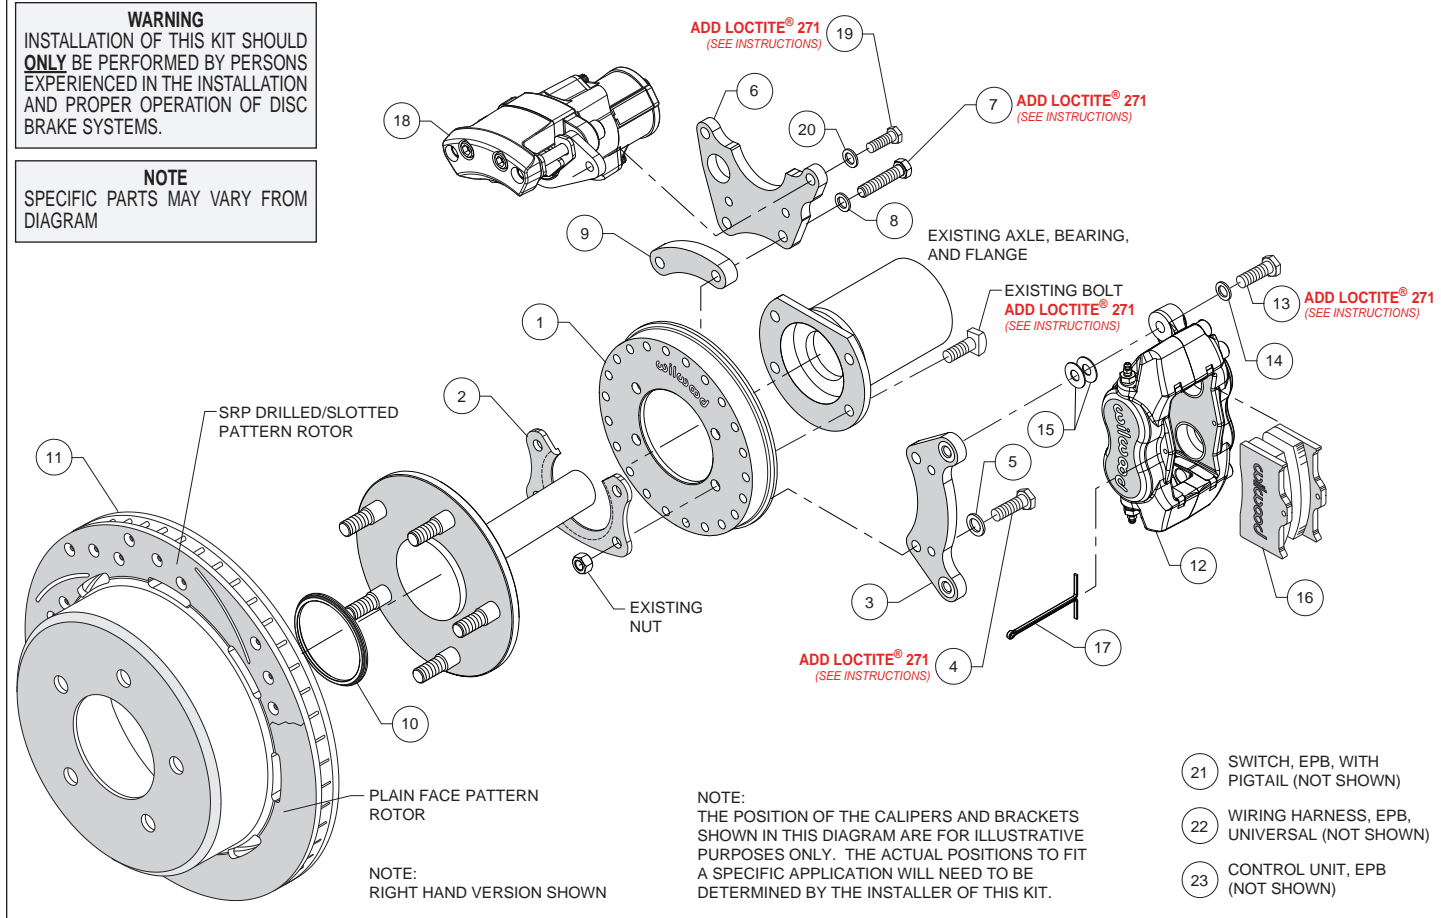
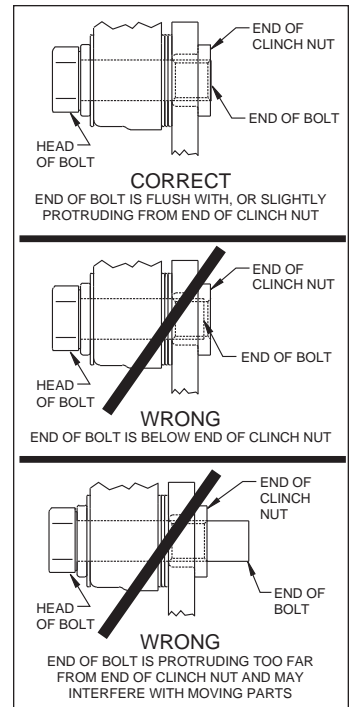

Figure 1. Typical Installation Configuration
Figure 5. Clinch Nut Engagement Diagram
(numbers in parenthesis refer to the parts list, and Figure 1 on the preceding pages):
CAUTION: All mounting bolts must fully engage clinch nuts. Be sure to check that all bolts are either flush or protruding through flanged side of clinch nut after shimming, Figure 5.
- Orient the backing plate (1) as shown in Figure 1 and Photo 1, and slide it onto the axle housing flange. Ensure the backing plate fits flush against the axle housing flange. Reinstall the axle into the axle housing.
- Install the bearing retainer (2) with the opening pointing upward and the lip facing inward (toward the bearing), as shown in Figures 1 and 4, and Photo 2. Secure retainer and backing plate to the axle housing flange using the Original Equipment Manufacturer (OEM) bolts and nuts, Figure 1 and Photo 3. Apply red *Loctite*® 271 to the OEM bolt threads and torque to OEM specifications.
- Start by determining the best location for the service caliper (12). This caliper is usually mounted in the 3:00 or 9:00 o'clock position, but may be rotated up or down approximately 45 degrees and still allow for proper bleeding, Photo 4. Orient the service caliper bracket (3) as shown in Figure 1 and Photo 5, and install to the backing plate (1) in the desired location using bolts (4) and washers (5). Temporarily tighten bolts. Next, mount the service caliper to the bracket using bolts (13) and washers (14). Temporarily tighten bolts. Check that the caliper (including inlet fitting and hose) has sufficient clearance to all surrounding components through the full suspension travel. Relocate the caliper/bracket on the backing plate as needed to ensure proper clearance is achieved.
- Determine the best location for the EPB caliper (18). **NOTE:** *The EPB caliper motor extends farther inboard than the service caliper and therefore needs additional consideration when determining a mounting location with sufficient clearance.* In the example application shown in Photo 6, the EPB caliper has sufficient inboard clearance to the leaf spring. However, if the EPB caliper were mounted closer to the 12:00 o'clock position, the inner body of the vehicle would hit the caliper during full compression of the suspension.
•Orient the EPB caliper bracket (6) as shown in Figure 1 and Photo 7, and install to the backing plate (1) in the desired location using bolts (7), washers (8), and spacer (9). Temporarily tighten bolts. **NOTE:** The EPB bracket is reversible. In one direction the bracket will position the EPB caliper closer to the service caliper, and vice versa if reversing the bracket. Next, mount the EPB caliper (18) to the bracket using bolts (19) and washers (20). Temporarily tighten bolts. **NOTE:** EPB calipers are Left and Right handed, however they can be used on either side of the vehicle to best suit your specific application. Check that the EPB caliper (including wiring harness connector) has sufficient clearance to all surrounding components through the full suspension travel. Relocate the EPB caliper/bracket on the backing plate as needed to ensure proper clearance is achieved.
•Once the caliper positions have been determined, remove both the service (12) and EPB (18) calipers, leaving both brackets in place on the backing plate. For both brackets, remove the bolts one at a time, apply red *Loctite*® 271 to the threads, and torque to 35 ft-lb.
•Slide the rotor registration adapter (10) onto the register on the axle flange with the smaller O.D. facing toward the rotor/hat (11), Photo 8. Align the hole pattern in the rotor/hat with the stud pattern on the axle flange and slide into place, Figure 1. **NOTE:** The rotor/hat must fit flush against the axle flange or excessive rotor run out may result. Install three lug nuts (finger tight) to keep the rotor/hat assembly in place while continuing with the installation. **NOTE:** Some OEM and after market axles come with stud sizes larger than 0.50" diameter. Verify stud size and have a qualified machine shop drill the bolt circle of the hat/rotor to the correct stud size, if necessary.
•**NOTE:** Please reference the caution statement at the beginning of the assembly instructions. Remount the service caliper (12) onto the caliper mounting bracket (3) using bolts (13) and washers (14), as shown in Figure 1. Initially place two .035" thick shims (15) on each bolt between the caliper and the bracket, Photo 9. Temporarily tighten the mounting bolts and view the rotor (11) through the top opening of the caliper. The rotor should be centered in the caliper, Photo 10. If not, adjust by adding or subtracting shims (15) between the bracket (3) and the caliper (12). Always use the same amount of shims on each of the two mounting bolts. **NOTE:** The end of each bolt must be flush with or slightly protruding from the head of the clinch nut, as shown in Figure 5. If necessary place spare shims (15) between washer (14) and caliper mounting ear to achieve the proper clinch nut engagement. Once the caliper alignment and clinch nut engagement are correct, remove the bolts one at a time, apply red *Loctite*® 271 to bolt threads, and torque to 40 ft-lb.
- Mount the EPB caliper (18) onto the caliper mounting bracket (6) using bolts (19) and washers (20), Figure 1. Apply red *Loctite*® 271 to bolt threads, and torque to 30 ft-lb.
- NOTE:** *The service caliper (12) in this brake kit utilizes a 1/8-27 NPT pipe thread inlet. OEM rubber brake hoses generally cannot be adapted to Wilwood calipers. The preferred method is to use steel adapter fittings at the caliper, either straight, 45 or 90 degree and enough steel braided line to allow for full suspension travel. Carefully route hoses to prevent contact with moving suspension, brake or wheel components. NOTE: Wilwood hose kits are designed for use in many different vehicle applications and it is the installer's responsibility to properly route and ensure adequate clearance and retention for brake hose components. Wilwood offers universal brake flex line hose kits, domestic (3/8-24 IF) chassis fittings, order:*